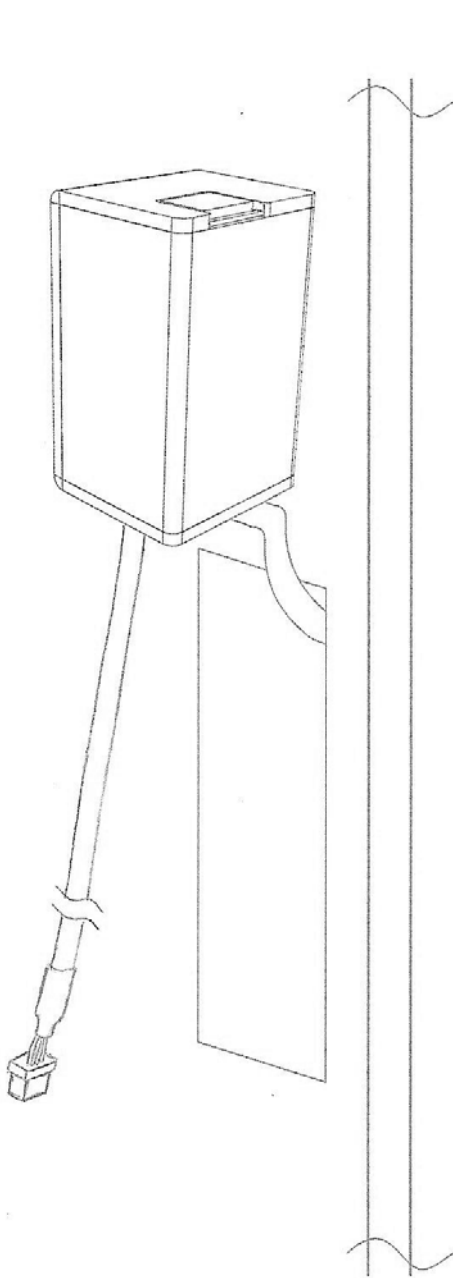

Figure 6
- **Ensure that the Interface Box is located close enough to the lock opening in the door, so that the finger-sensor on the ribbon cable can go through the door and connect into the lock, see Figure 6.**
- Push the finger-sensor assembly through the door lock opening as shown in Figure 6.